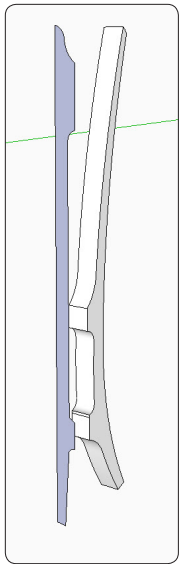

Figure 76. Place the front view of the leg directly in front of the side view.
Step 3 Line up the front shape directly in front of the side view leg blank, as shown in Figure 76.